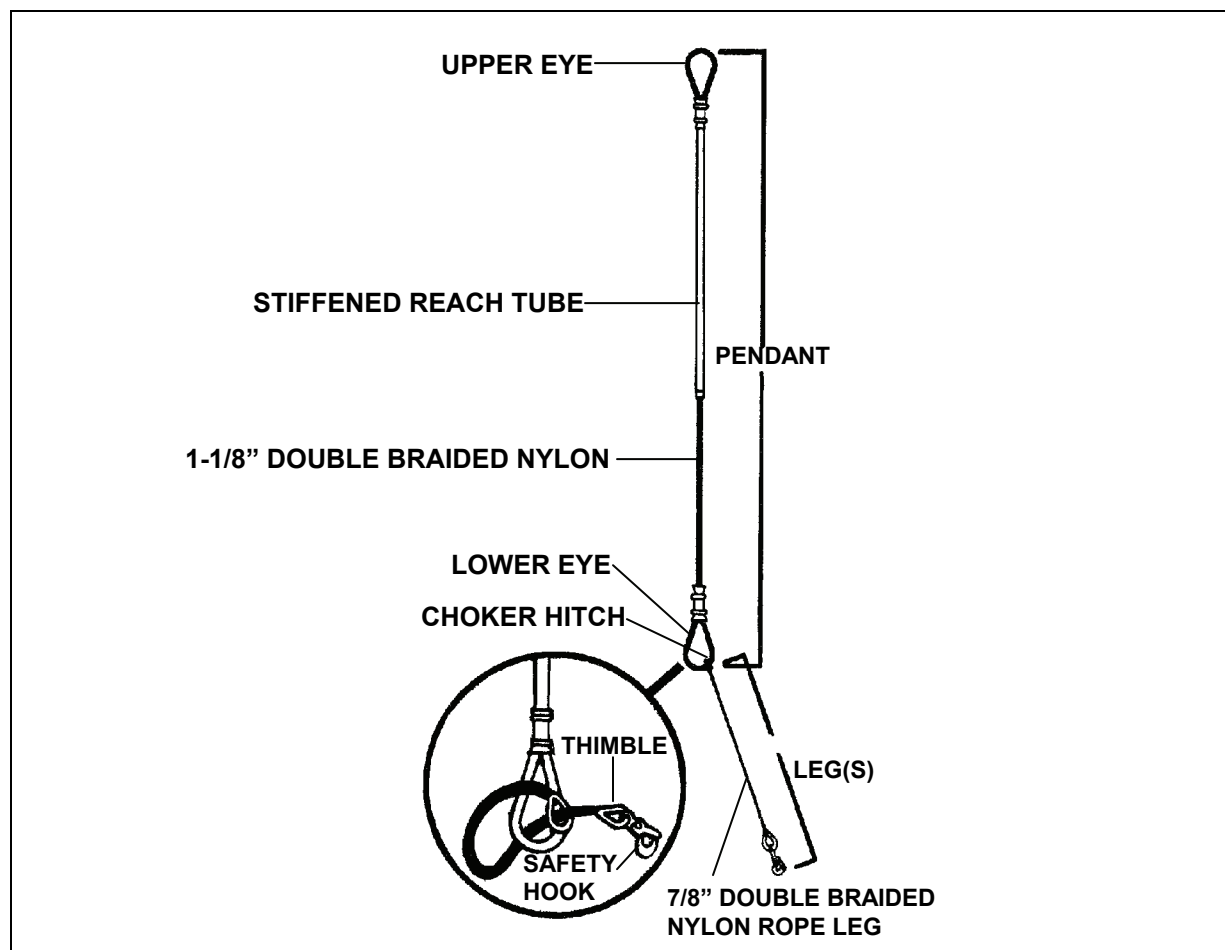

Figure 9-5. Mk 105 Hoisting Sling (Multi-Leg Pole)
- **Hoisting Sling Mk105.** This sling, called the multileg-pole pendant or reach pendant, is approved for all types of VERTREP loads up to 6,000 pounds (Figure 9-5). The Mk105 consists of two parts: the pendant section and the leg assemblies.
- The legs are made of color-coded, 15/16-inch diameter, double-braided nylon rope with an open eye splice at one end and a positive-closing, self-locking cargo hook at the other end. The regular leg (orange) is 85 inches long and the long leg (green) is 116 inches long. As many as six legs may be attached to the pendant's lower eye by means of choker hitches (Figure 9-5 inset). The number of legs used is determined by the number of attachment points on the load. Four regular legs are provided with each pendant at the time of issue. The safe working load for an Mk105 pendant with a single leg is 4,000 pounds. The maximum capacity of the Mk105 pendant is 6,000 pounds when two or more legs are attached. The nylon rope also acts to absorb the shock of the load during pickup by the helicopter. As the helicopter lifts up, the weight of the load is transferred from the flight deck to the pendant. This action stretches the pendant and the result is a smooth load pickup with minimum shock and stress to the aircraft and load.